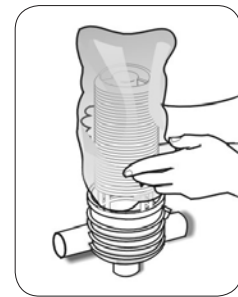

Figure 4
- Remove the discs. For convenience, we recommend using a plastic bag (Figure 4, 5).